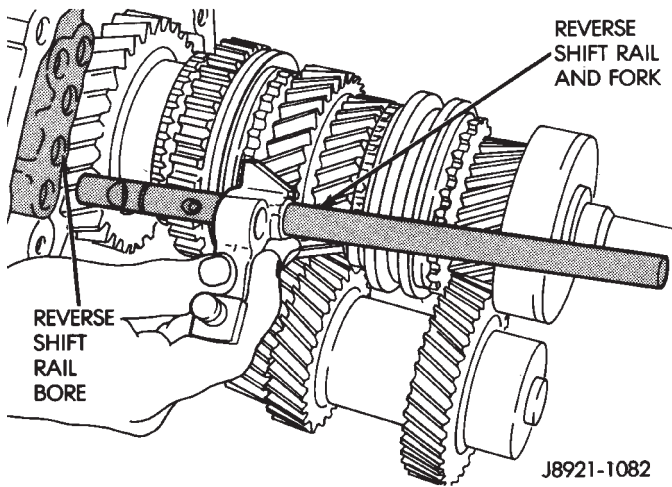

Fig. 87 Installing Reverse Shift Rail And Fork
(2) Install reverse shift rail in intermediate plate (Fig. 87).